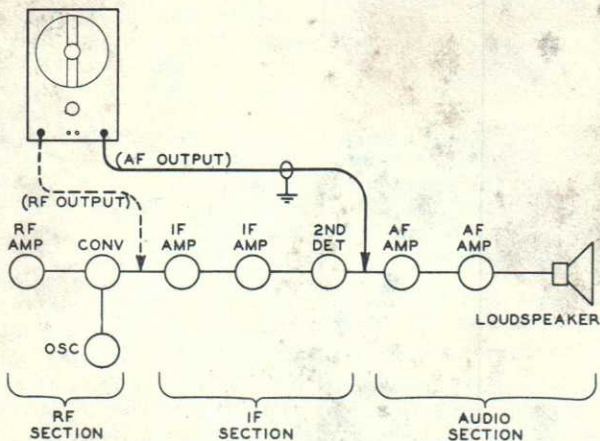
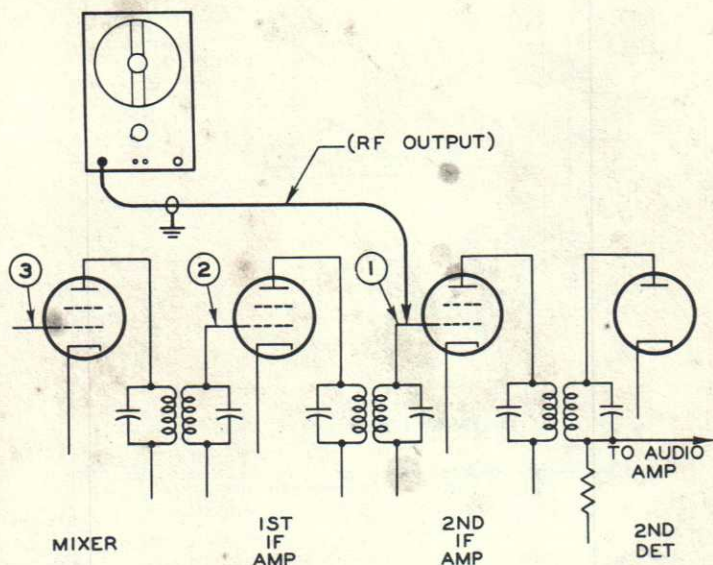

Figure 13. Method for locating a dead section in an am broadcast receiver
Figure 15. Method for locating a dead stage in the if amplifier of an am broadcast receiver
2. If the audio section is functioning, the if section should be checked by applying an if signal of very low level with modulation to the input of the if amplifier, as shown in Figure 13. Tune the WR-50B to the if of the receiver, which is 455 Kc in most cases. If a loud 400-cycle tone is heard, it indicates that the if section is functioning. If no signal is heard, or if the sound is weak, a stage-by-stage check of the if amplifier should be made as described under Figure 15.
Figure 15. Locating a dead stage in the if amplifier of an AM broadcast receiver. If the audio section is functioning, the if amplifier should be checked. The receiver volume control should be set to the maximum-volume position and the WR-50B should be tuned to the intermediate frequency used in the receiver.